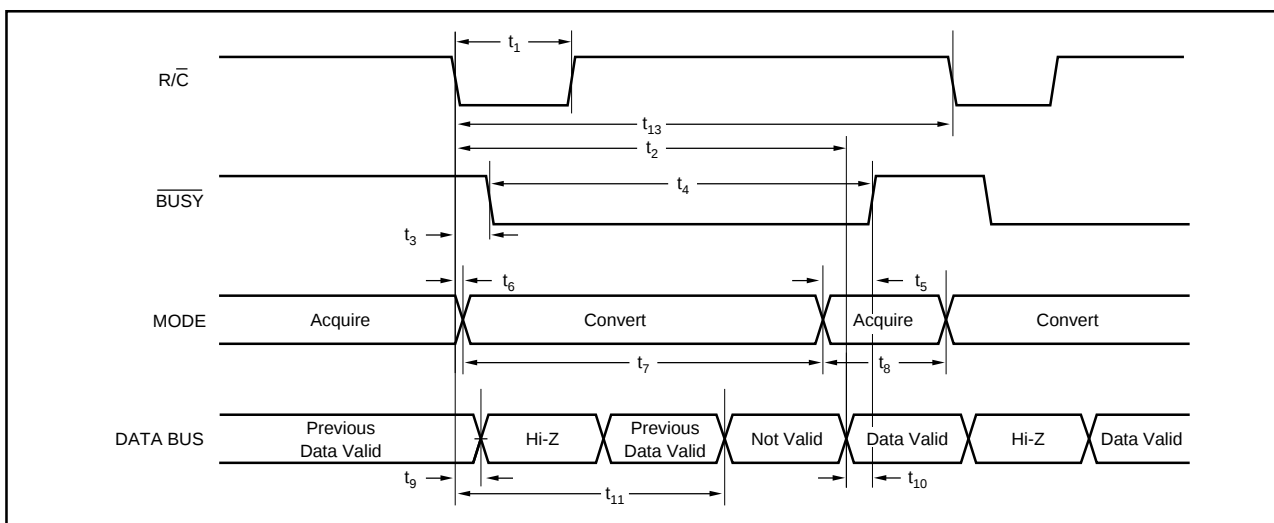

FIGURE 3. Conversion Timing with Outputs Enabled after Conversion ($\overline{CS}$ Tied LOW.)
Table II for a summary of $\overline{CS}$, $\overline{R/C}$, and $\overline{BUSY}$ states and Figures 3 through 5 for timing diagrams.
NOTE: (1) See Figures 3 and 4 for constraints on data valid from conversion "n-1".
After conversion 'n' is completed and the output registers have been updated, $\overline{BUSY}$ (pin 26) will go HIGH. Valid data from conversion 'n' will be available on D15-D0 (pin 6-13 and 15-22). $\overline{BUSY}$ going HIGH can be used to latch the data. Refer to Table IV and Figures 3 and 5 for timing specifications.
After conversion 'n' has been initiated, valid data from conversion 'n-1' can be read and will be valid up to $7\mu s$ after the start of conversion 'n'. Do not attempt to read data from $7\mu s$ after the start of conversion 'n' until $\overline{BUSY}$ (pin 26) goes HIGH; this may result in reading invalid data. Refer to Table IV and Figures 3 and 5 for timing specifications.
The number of control lines can be reduced by tying $\overline{CS}$ LOW while using $R/\overline{C}$ to initiate conversions and activate the output mode of the converter. See Figure 3.